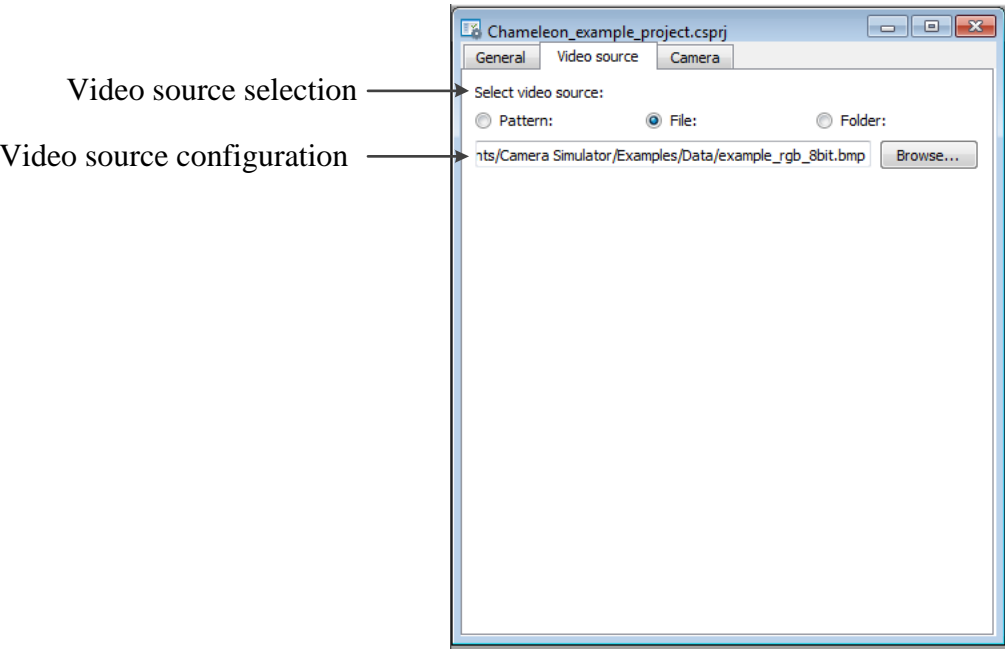

Figure 5 : Video source project navigator tab
2. A Video source tab is used to specify a video source for the current project as shown in Figure 5.